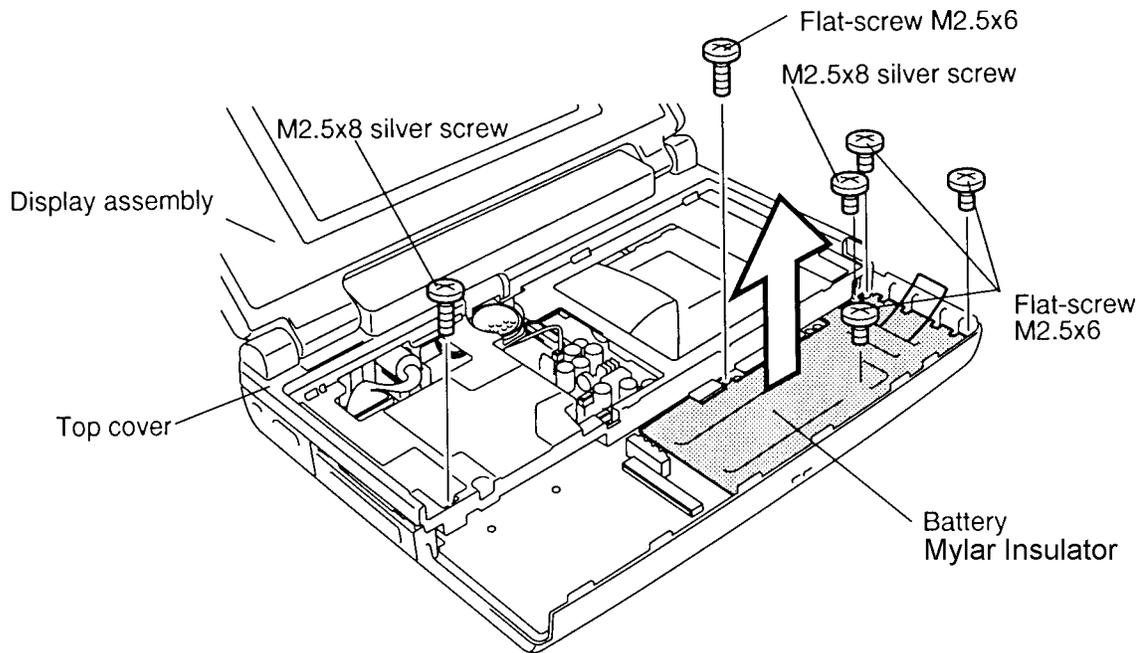

Figure 4-16 Removing the six screws
6. Remove the **four flat-head M2.5x6 screws** on the **battery pack frame** (figure 4-16).
7. Remove **two M2.5x8 silver screws** on the top cover (figure 4-16).
5. Secure the **two M2.5x8 silver screws** on the top cover (figure 4-16).
6. Secure the **four flat-head M2.5x6 screws** on the battery pack cover (figure 4-16).
7. Connect the **AccuPoint cable** to **PJ13** on the system board and press in on the hinge on each side to secure the palm rest (figure 4-16).